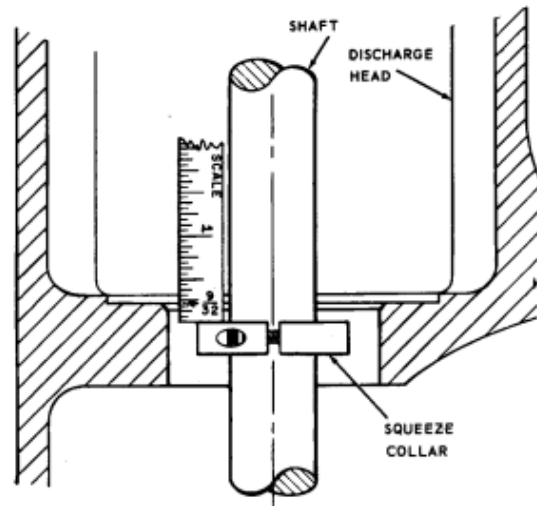

Figure 7. Location of Squeeze Collar
11. Put the gasket (73A) on top of the can assembly (315) and lower the bowl units into the can until the discharge head assembly rests on the can. Bolt the discharge head to the can, making sure the suction and discharge flanges are facing in the correct relative directions.
12. VTM only: Slide the squeeze collar (604) on the shaft and down until the top of the collar is  $9/32 +_{-} 1/64$  inches from the seal flange seat on the discharge head (304) (see Figure 7) and securely tighten in position. This dimension is critical and is necessary for the proper seal compression.